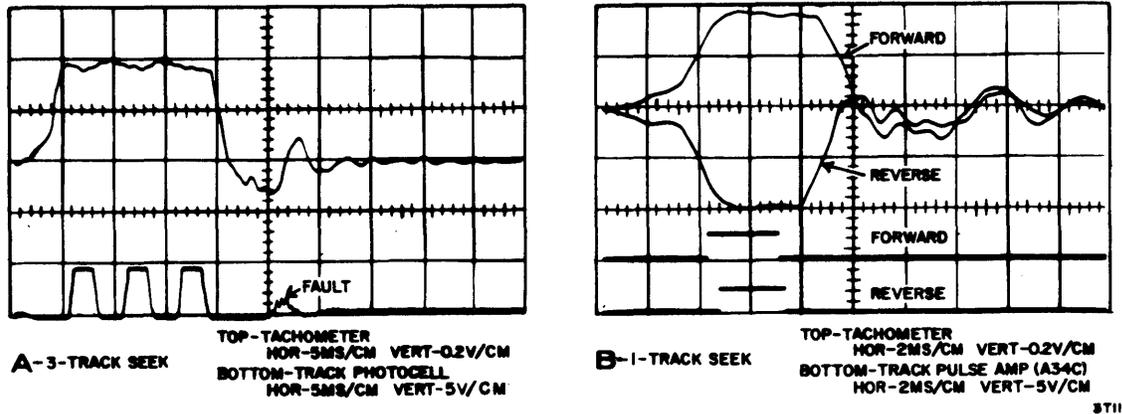

Figure 6-19. Dynamic Track Photocell Adjustment
- c. Refer to Figure 6-19, part A, for oscilloscope settings. Each of the Track pulses should swing between a low voltage of  $-0.6 \pm 0.4$  vdc and a high voltage of  $+5.0 \pm 0.5$  vdc. There should be no track pulses of less amplitude during the settle time (as shown by FAULT on Figure 6-19, part A). If the extra pulses do exist, they will be corrected during the following steps.
- g. Refer to Figure 6-19, part B, for oscilloscope settings and compare waveforms. The track pulses should be approximately coincidental (leading and trailing edges of pulse vertically aligned).
- j. When the oscilloscope trace is similar to Figure 6-19, part B, tighten the three locking screws in the photocell mounting plate. Make certain that the trace does not change.